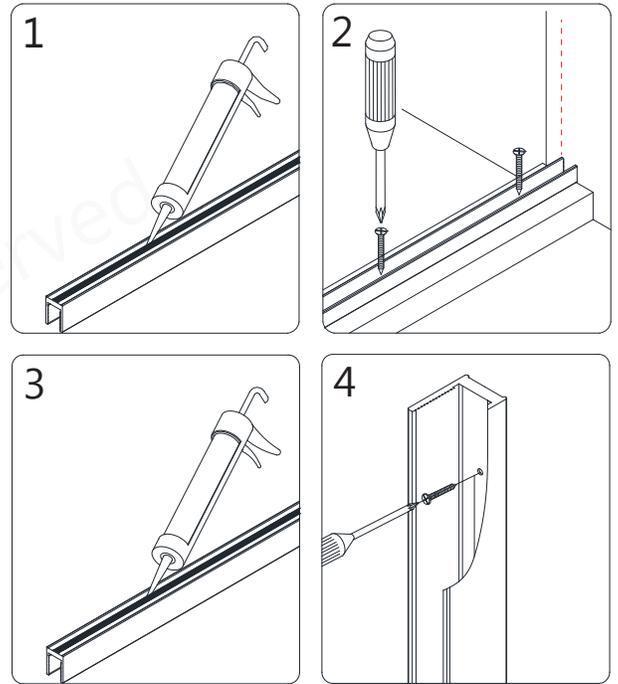

Fig 18
18. Add silicone to the back surface of the U-Channels and attach to the wall using the **ST4.2 x 40 Countersunk Screws (#23)** (Fig 18):